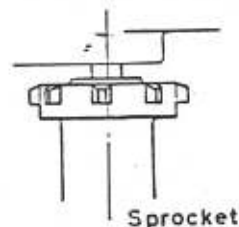

Fig. 69
- 2) Position a tooth of Sprocket as shown in Fig. 69.